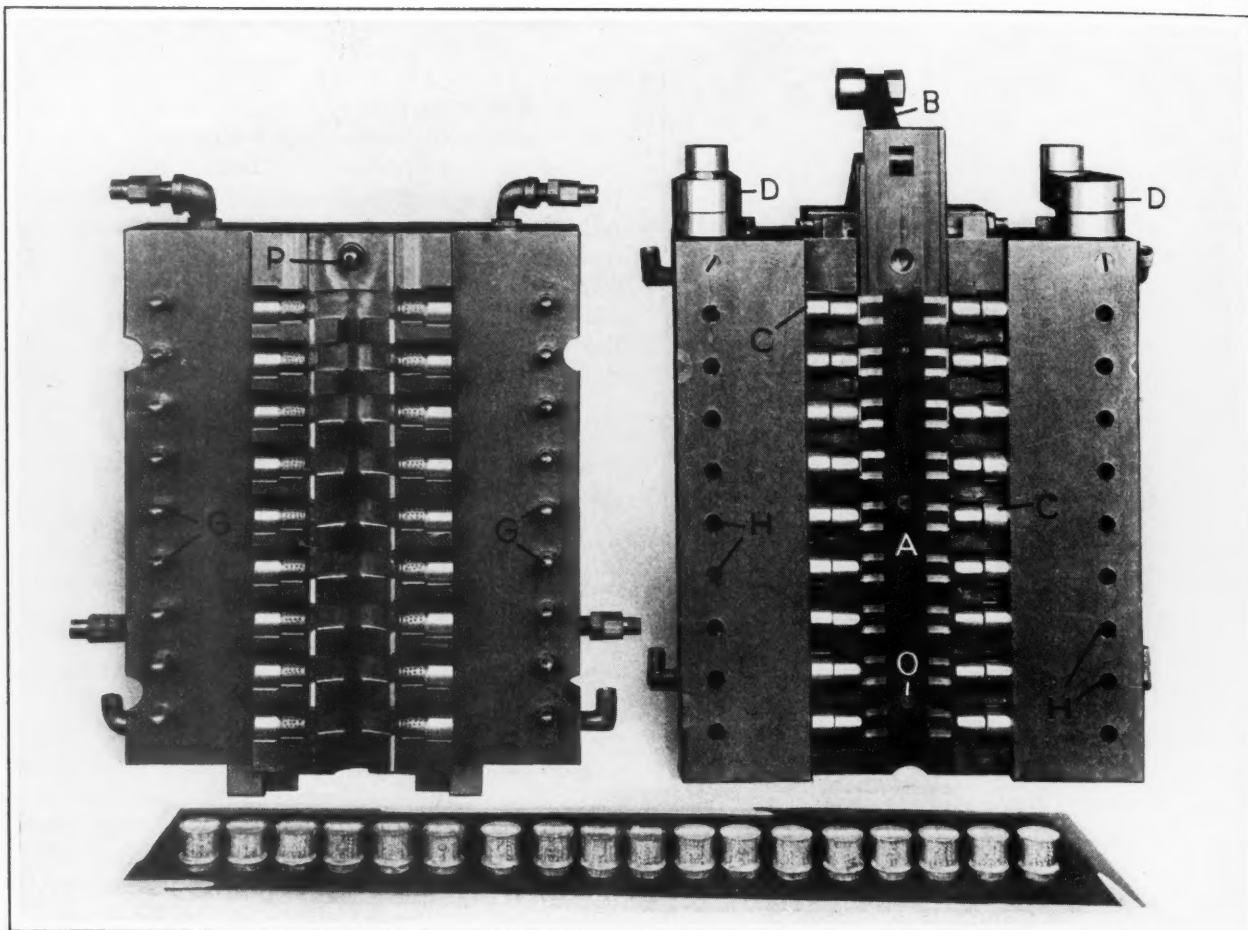

Fig. 1. Die Set Having a Slide in the Movable Die which Cuts All Sprue Metal from the Eighteen Castings When This Die is Withdrawn from the Stationary Member
**S**MALL lead castings, approximately  $\frac{5}{8}$  inch long by  $\frac{11}{16}$  inch outside diameter, are produced at the rate of 100 per minute by the use of the dies shown in the accompanying illustrations. These dies were designed for use on die-casting machines built by the Madison - Kipp Corporation, Madison, Wis. In Figs. 1 and 2, eighteen of the parts are shown beneath the dies. This number of parts is cast at each "shot" of molten lead into the dies, an average of  $5\frac{1}{2}$  shots being made per minute. A pressure of from 225 to 250 pounds per square inch is used to force the metal into the die cavity. A blind hole  $\frac{7}{16}$  inch in diameter extends almost the full length of the pieces.
Fig. 1 in the position it occupies when the face of the movable die is tight against the stationary die at the left, ready for a casting operation. At the end of an operation, the slide is gradually pushed downward while the movable die recedes from the stationary die, until it reaches the position shown in Fig. 2. During its downward movement, the slide cuts off all excess metal on the closed end of the pieces, the metal falling free of the dies.